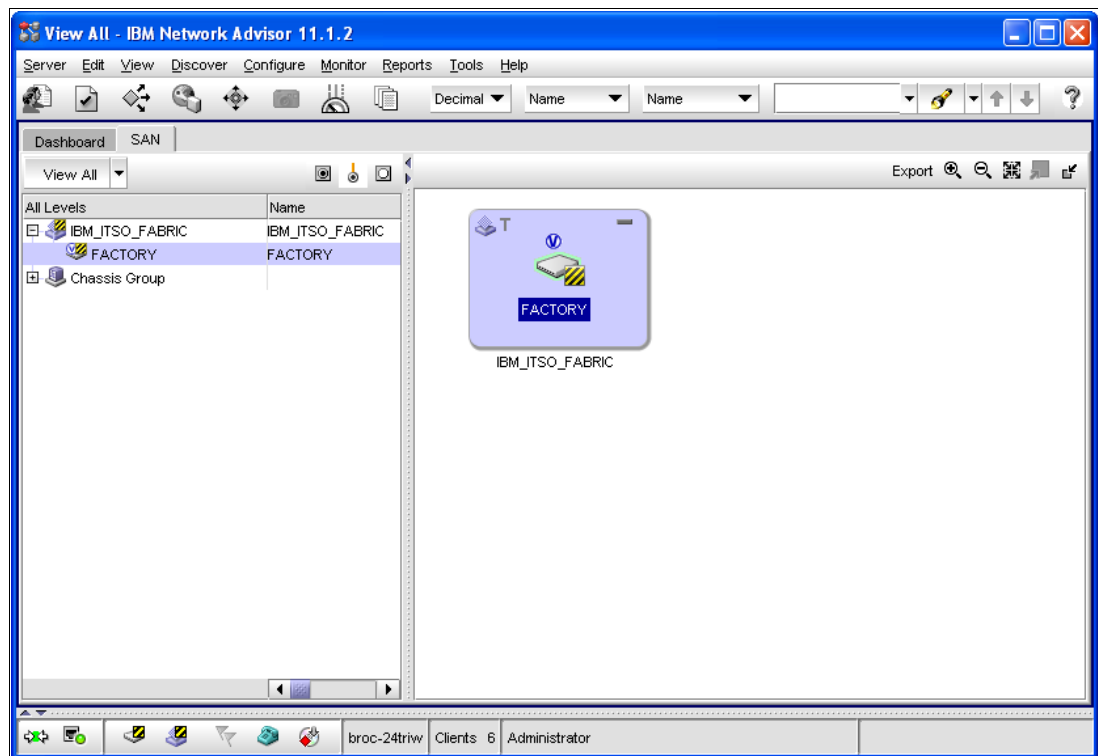

Figure 8-30 Virtual Fabric enabled
5. The Director shows that the Virtual Fabric is enabled by a blue V in the IBM Network Advisor switch view, as shown in Figure 8-30.